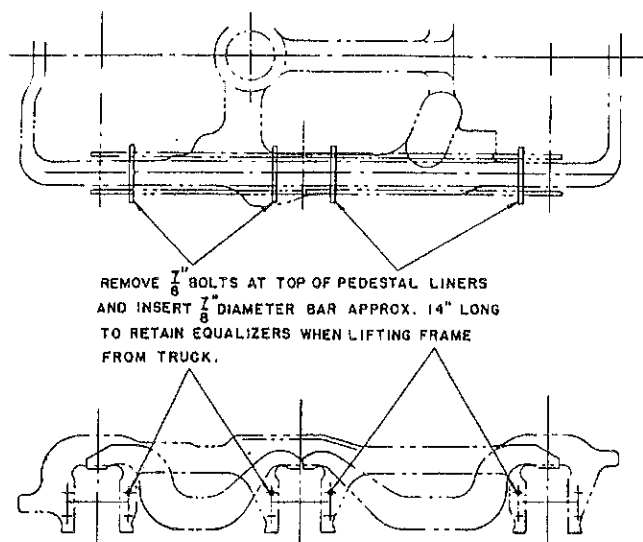

Fig. 13 - DISASSEMBLY-THREE MOTOR TRUCK
7. Remove truck pedestal liner top bolts at location marked (see Fig. 13) and pass $7/8''$ dia. bars, 15" long through the holes from which the bolts were removed. These bars will engage and lift the equalizers along with the truck frame when it is being removed from the axle assemblies.